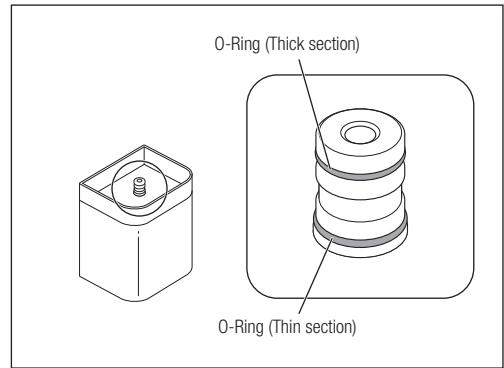

Fig. 46
CAUTION  • The O-rings are of different thicknesses. Be sure to place them in the correct groove (Fig. 46).
- 1) Remove the O-rings from the Chamber Base Connector using a needle, etc. (Fig. 46).